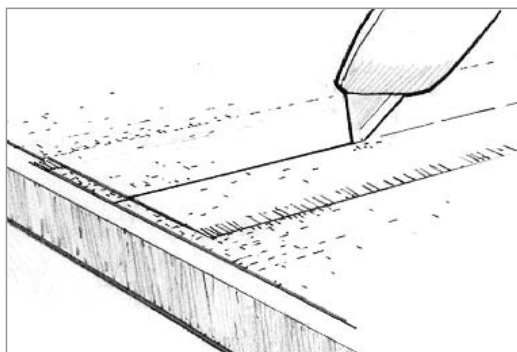
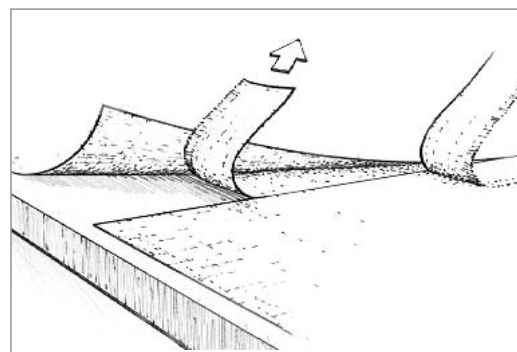

Figure 6-14 Trim overlapping fabric using a metal straightedge and a sharp utility knife, for a flush butt joint.
Figure 6-15 Remove the topmost trimming. Then lift the opposite cut edge to remove the overlapped trimming.
- a) Place a metal straightedge on top of and midway between the two overlapped edges. b) Cut through both layers of cloth with a sharp utility knife (*Figure 6-14*). c) Remove the topmost trimming and then lift the opposite cut edge to remove the overlapped trimming (*Figure 6-15*). d) Re-wet the underside of the raised edge with epoxy and smooth into place. The result should be a near perfect butt joint, eliminating double cloth thickness. A lapped joint is stronger than a butt joint, so if appearance is not important, you may want to leave the overlap and fair in the unevenness after coating.